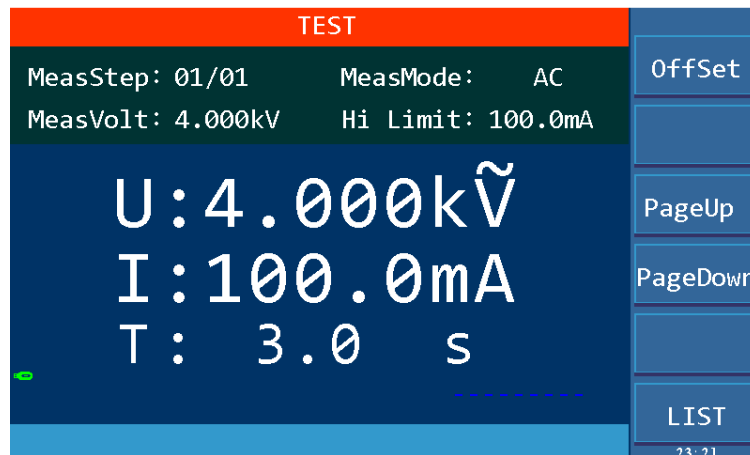
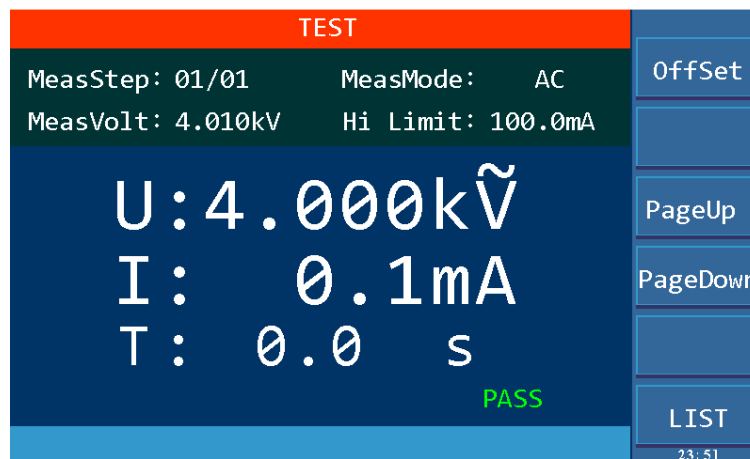
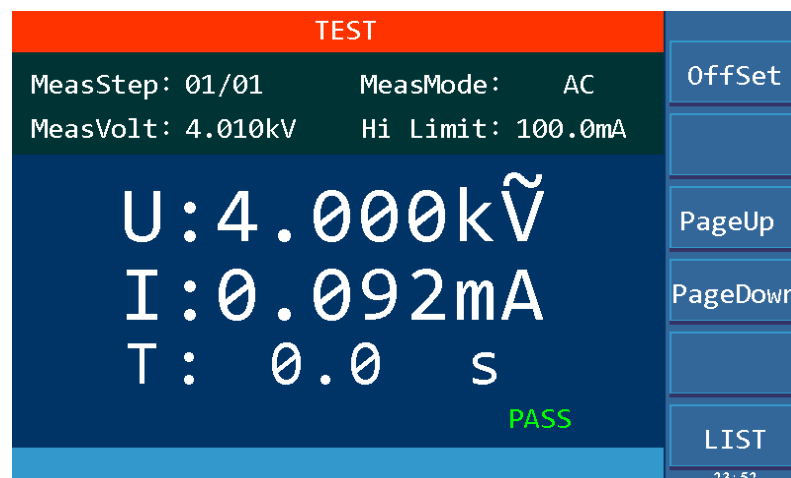

Figure 4-4.1
Figure4-4.2
Figure4-4.3
Examples are shown in Figure 4-4.1 and Figure 4-4.2 and Figure 4-4.3.
1. If the current range in TEST is set as high current range, 100mA in Figure 4-4.1.
2. But the actual current is comparatively small, 0.1mA as shown in Figure 4-4.2.
3. At 0.6S before the completion of the test, the current range is switched to the appropriate low range, which is 92uA in Figure 4-4.3.